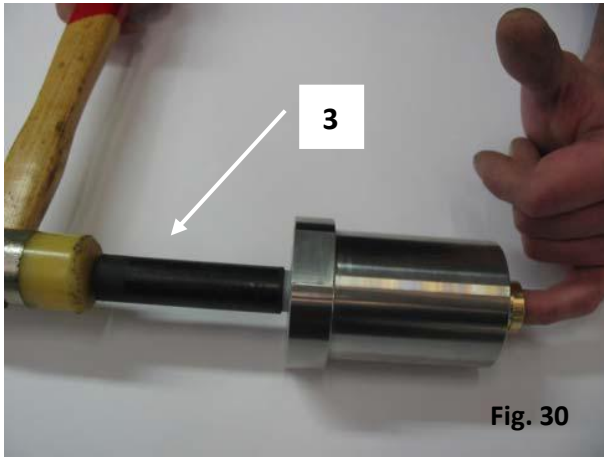
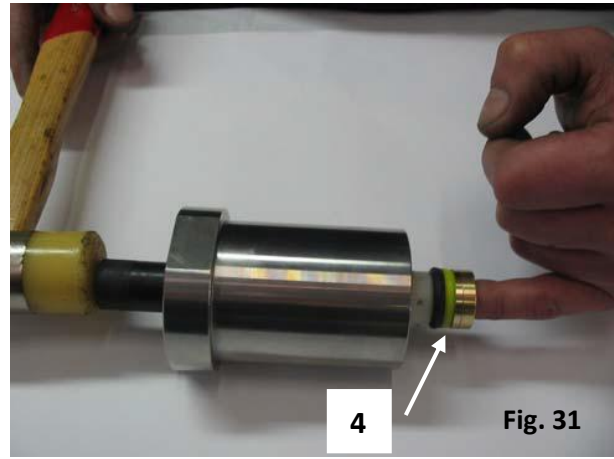

Fig. 30
Fig. 31
- E) With the liner separated from the support, and with an opposite plastic pin [3] as shown in fig. 30, push out the H.P. (high pressure) packing [4] by operating as in fig. 31.
At each disassembly, the HP packing [4] fig. 31 must be replaced.